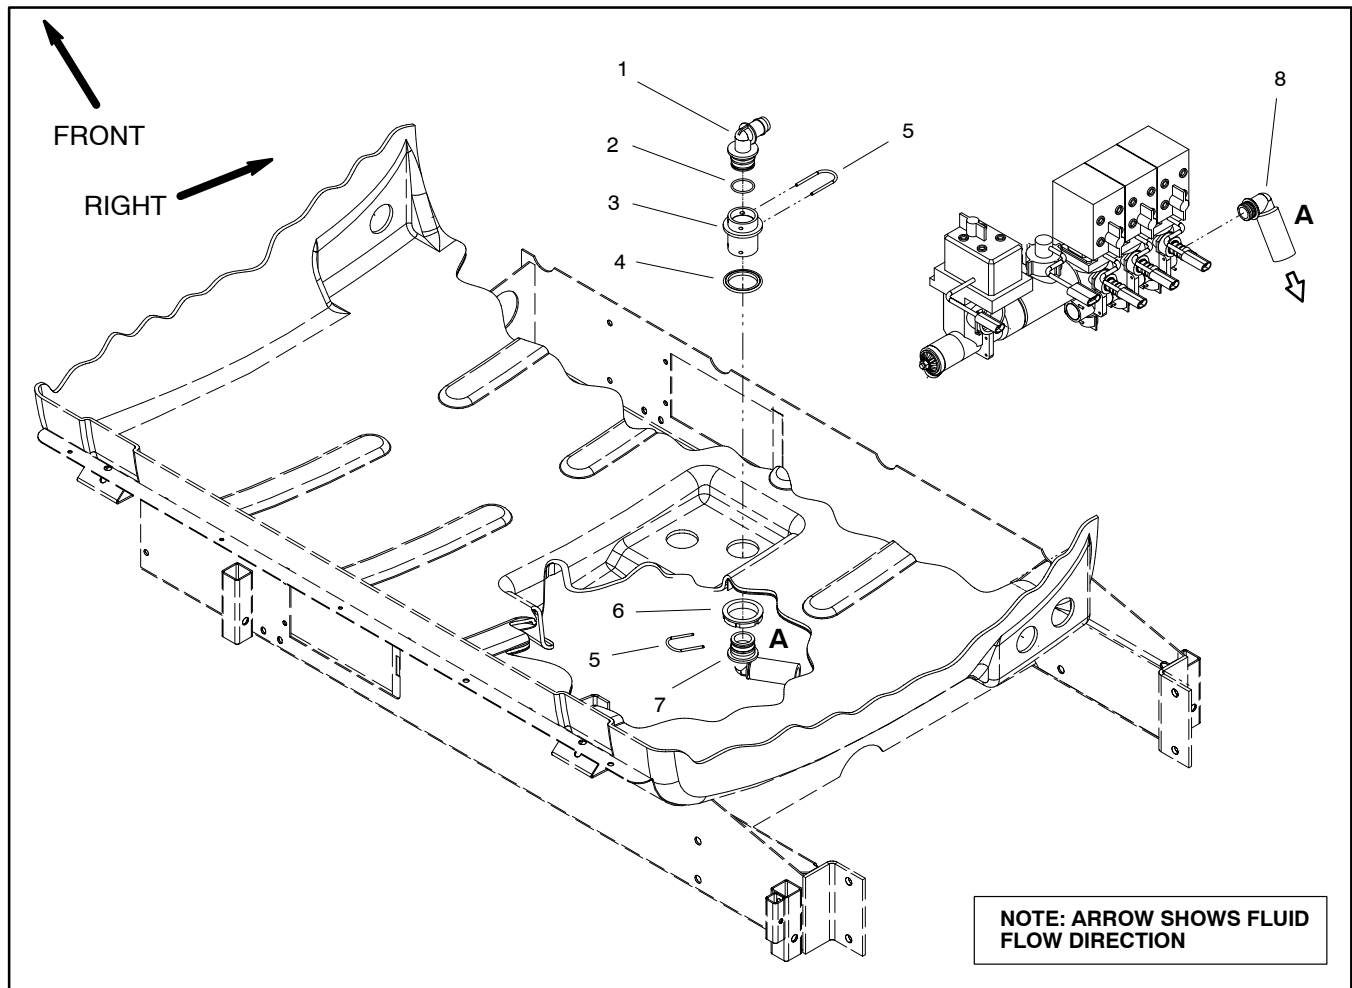

Figure 33
Disassembly (Fig. 33)
3. Disassemble boom bypass using Figures 33 and 34 as guides. Discard all removed o-rings and gaskets.
Assembly (Fig. 33)
1. Assemble boom bypass using Figures 33 and 34 as guides. Replace all removed o-rings and gaskets.